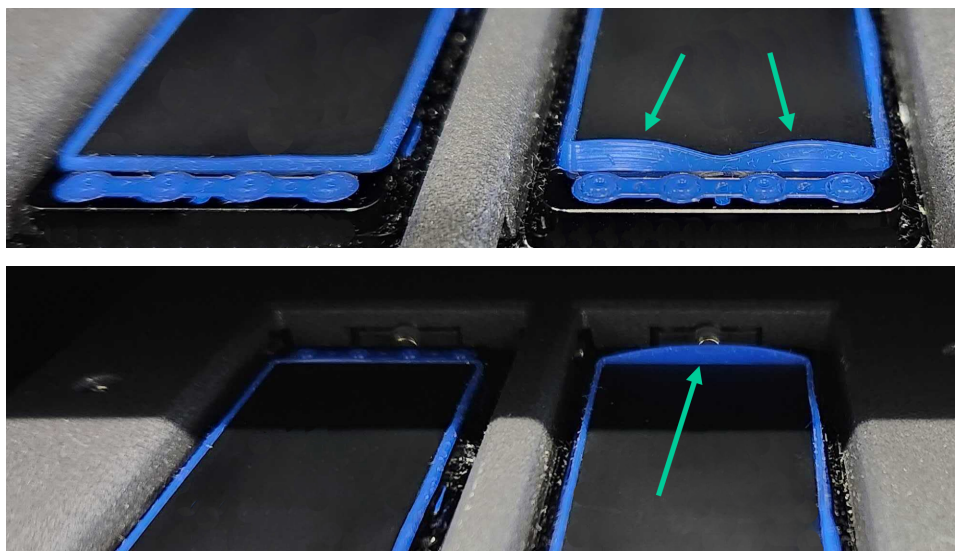

Figure 37 Raised gaskets at the front end and far end of a flow cell position, indicated by arrows.
2. Ensure the gaskets of the flow cell position is completely level by running a gloved finger all the way around the blue perimeter gasket and over the two port gaskets at the front and rear. If a gasket is raised in an area, carefully press the gasket down in that area to make sure the gasket is entirely level (see Figure 37).